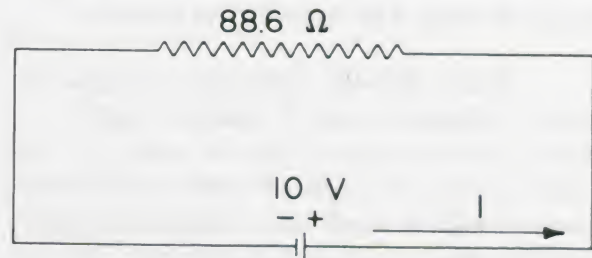

Figure 35.
3. Further reduce the series combination of  $28.6\ \Omega$  and  $60\ \Omega$  to its equivalent resistance. The equivalent series resistance is  $28.6\ \Omega + 60\ \Omega = 88.6\ \Omega$ . The circuit is now reduced to the simple form which enables you to apply Ohm's Law. (See Figure 35.)